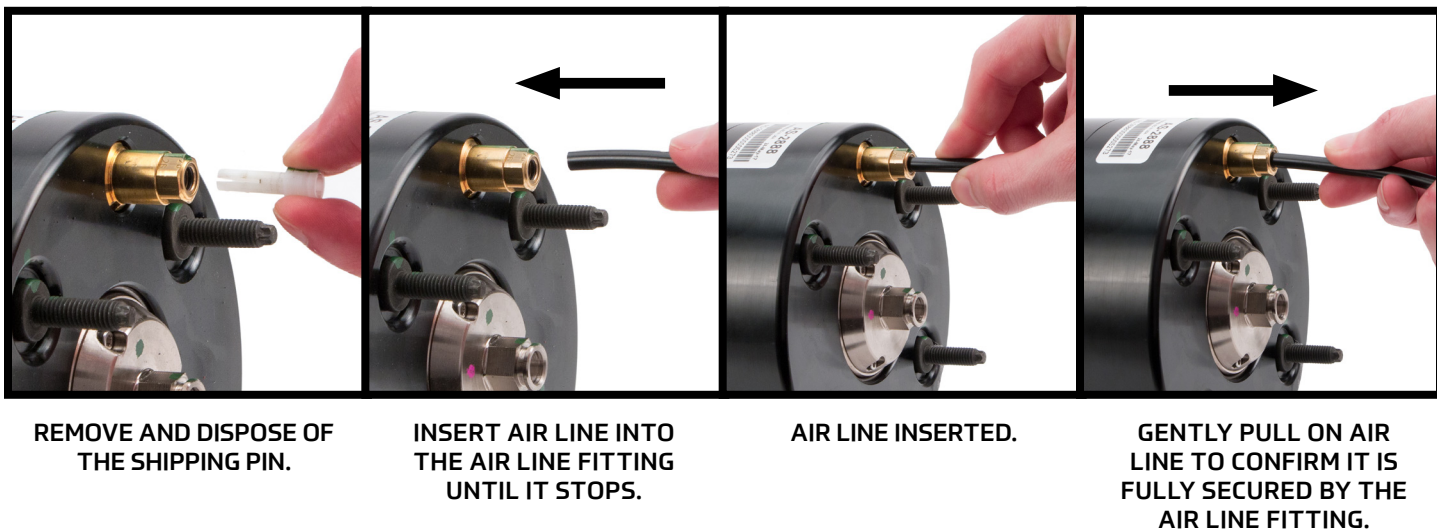

FIGURE 5
1. Install the air spring in the reverse order of removal using the new air spring retaining clip provided. Ensure to follow the shipping pin removal and air line installation instructions (Figure 5).